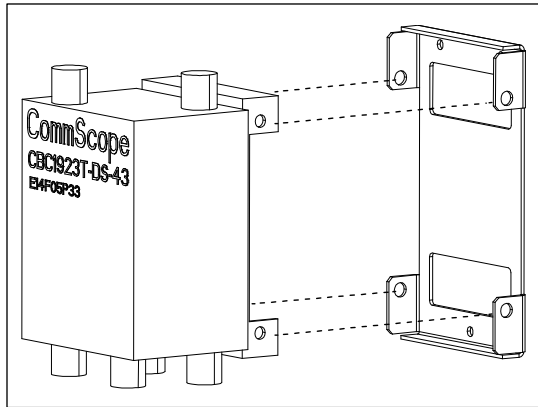

Figure 6 Attach Diplexer to Brackets
1. Attach the diplexers to the diplexer brackets using customer supplied hardware (Figure 6).